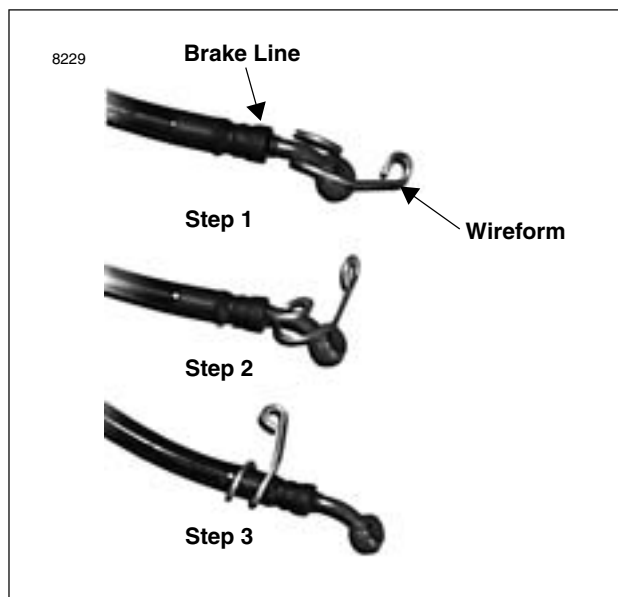

Figure 2-49. Wireform Installation
1. See Figure 2-49. Install wireform to rear brake line as shown in figure.